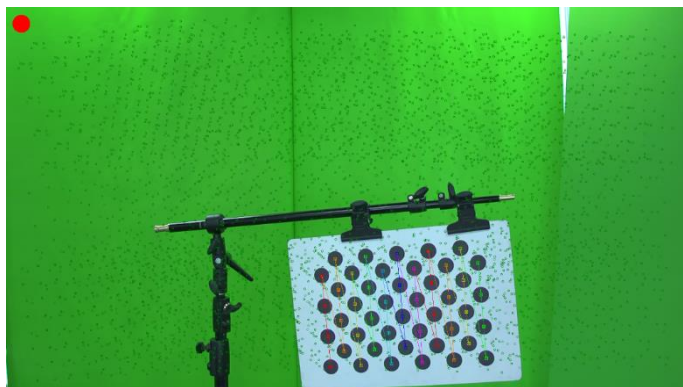

Figure 11
- Figure 11 indicates a suitably filled frame.